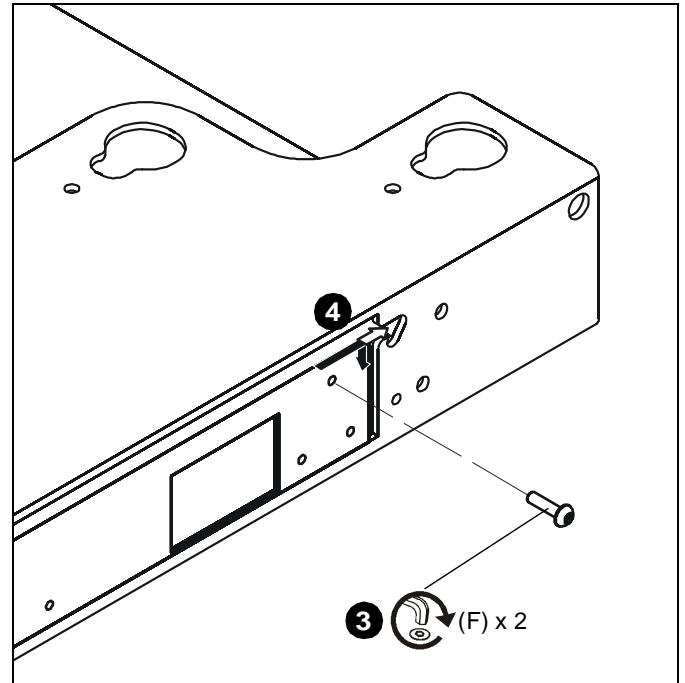

Figure 3
3. Partially install two M4 x 10mm security screws (F) into holes on sides of CPU that are located directly in front of notches on the side of CPU holder (A). (See Figure 3)
4. Hook partially installed screws over notches on CPU holder (A). (See Figure 3)